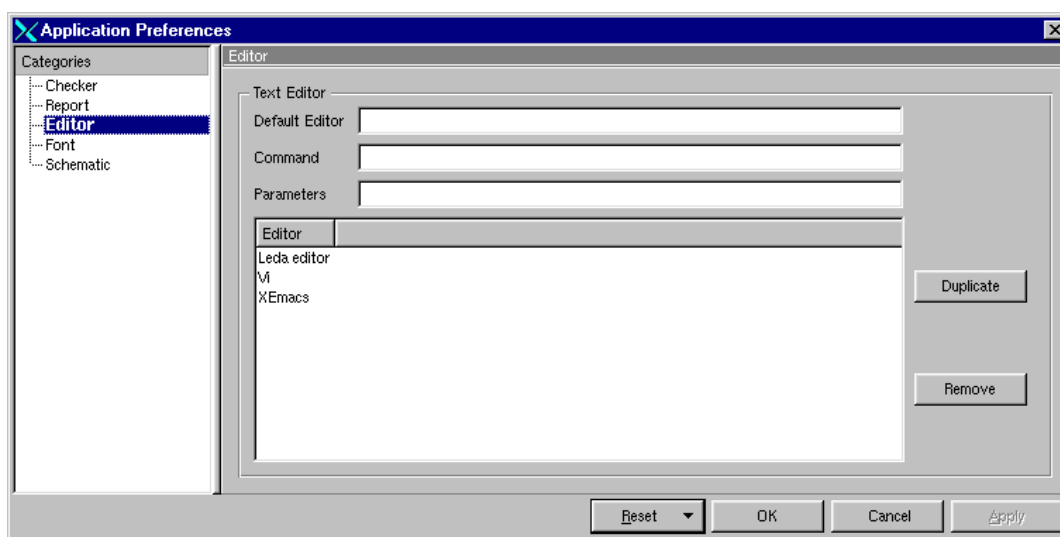

Figure 48: Set Text Editor Window
1. Choose **File > Preferences > Source Settings** from the Specifier or Checker main window. This brings up the Application Preferences window. Choose Editor from the list on the left side of the window. The display changes to a window you can use to select a text editor other than the default Leda editor (see Figure 48).